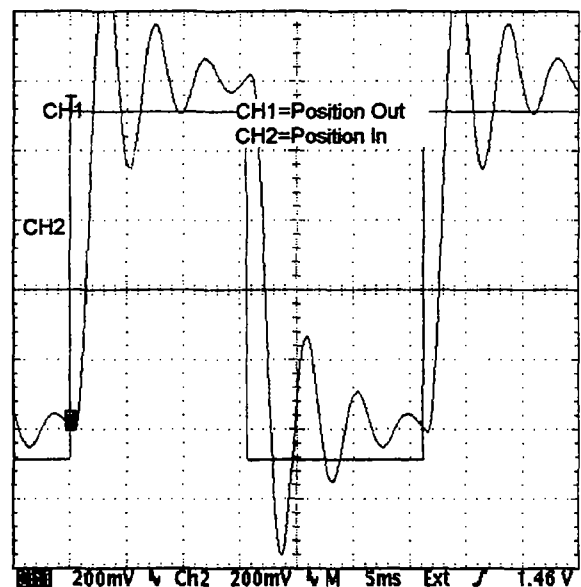

Figure 1.
7. Turn R31 CW very gradually until a waveform similar to figure 1 is obtained. The trimpot will have no effect the first one or two turns, then it will begin to have effect. Continue to turn the trimpot CW until the oscillations just die out before the next half cycle of the input signal.